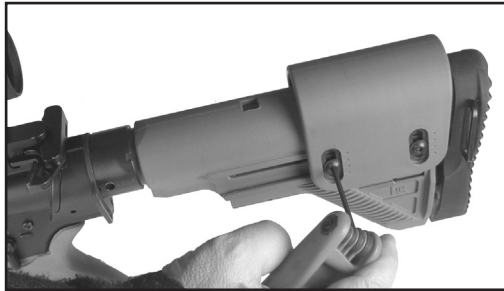

Fig. 94 – Adjusting the Height
4. Adjusting the Height (Fig. 94)